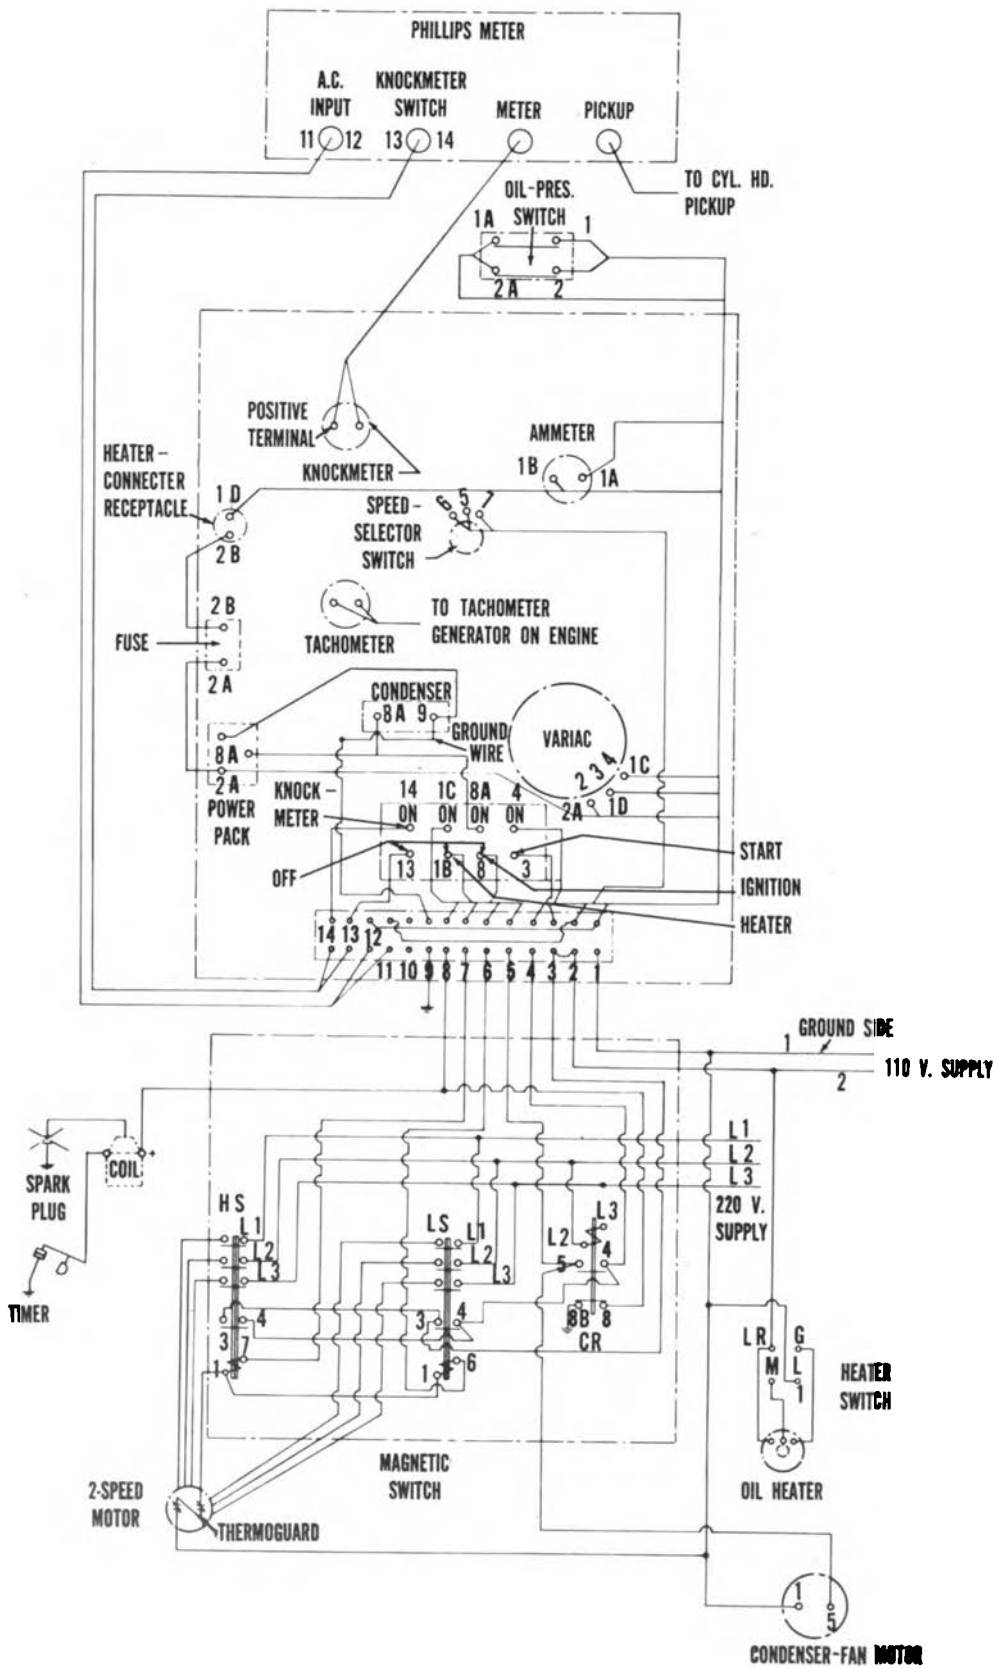

Figure 59. Electrical system for knock engine (wiring diagram).
- (3) *Electrical system.* The wiring diagram for the modified knock engine is shown in figure 59. Three-phase 220-volt current, used to drive the synchronous 2-speed electric motor, is furnished to the unit through circuit breaker switch 6. A power pack rectifies the 110-volt alternating current to 110-volt direct current for the ignition circuit.
- (4) *Exhaust, fuel supply, and induction systems.* The modified knock engine is equipped with a short rigid exhaust manifold coupled to the vertical 6-inch muffler that has been substituted for the standard exhaust surge tank. The muffler is clamped to the coolant reservoir, which in turn is connected by hose to the condenser. The exhaust